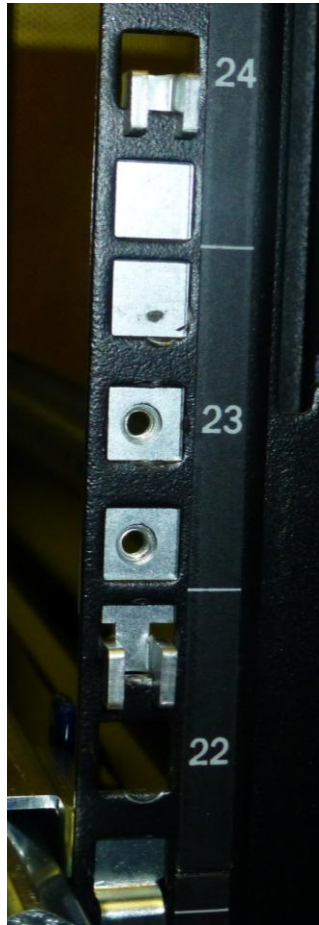

Figure 17. **CMA Mounting Bracket Position**
1. Position CMA mounting bracket at rear of left-side rack mount (Figure 17).